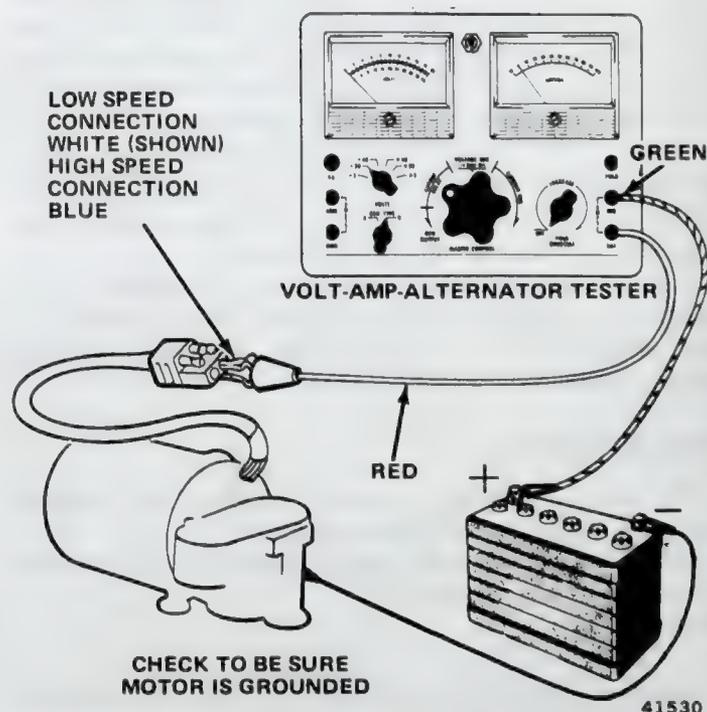

Fig. 3T-29 Wiper Motor Current Draw Test Connections
- (1) Remove wiper arms and blades and disconnect motor lead.
- (2) Connect negative lead of ammeter to positive battery post (fig. 3T-29).